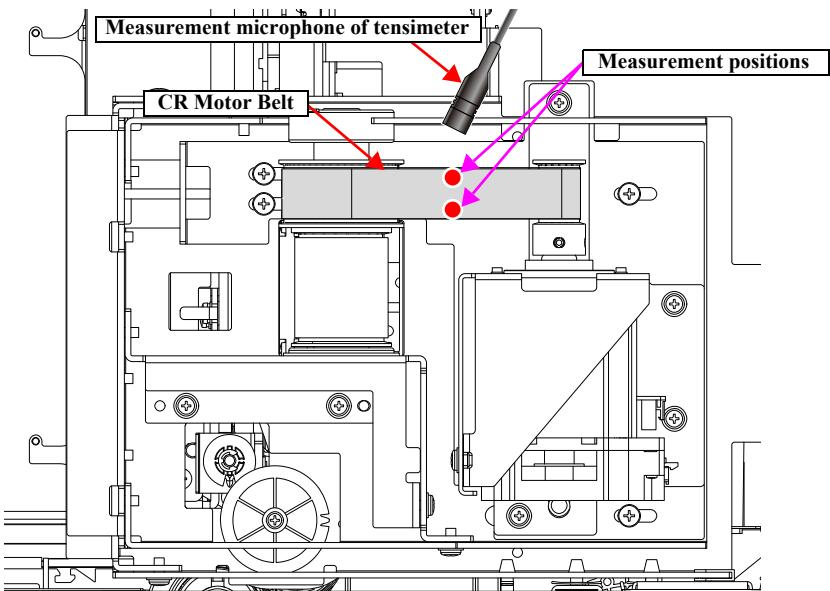

Figure 4-51.
3. Bring the measurement microphone of the tensimeter near the position indicated in Figure 4-51.